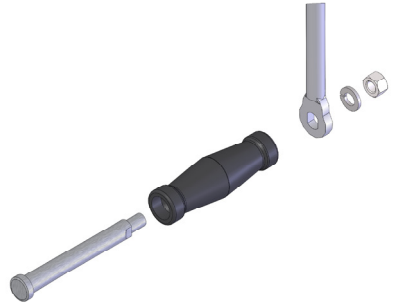

Figure 2
- b) For side-wind jacks, assemble the handle as shown (see Figure 2).